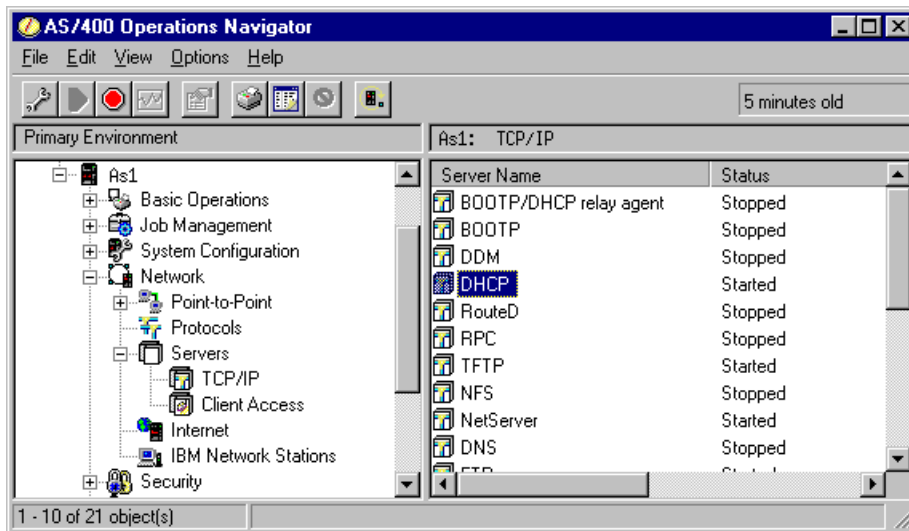

Figure 74. AS/400 Operations Navigator - TCP/IP Server Status
19. Start the DHCP server by right clicking on **DHCP** and select **Start**. If the DHCP server starts successfully, the *status* is updated as shown in Figure 74 on page 164.